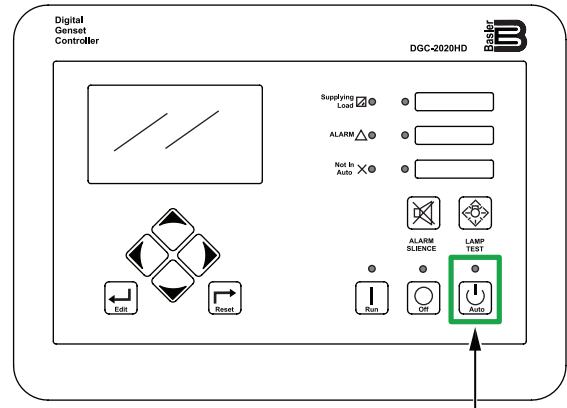

Figure 47. Digital Controller (Auto Button)
2. Press the **Auto button** (Figure 47) on the digital controller. When a start signal is received from the auto-start contacts, the engine will start automatically after the preheating process has completed.